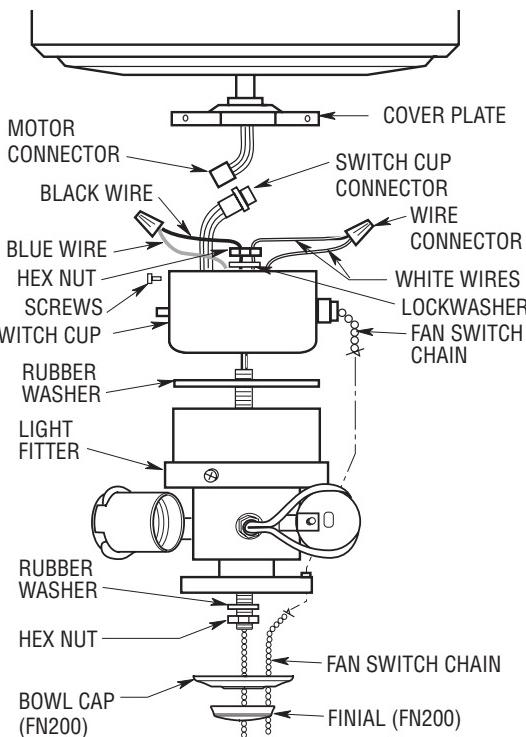
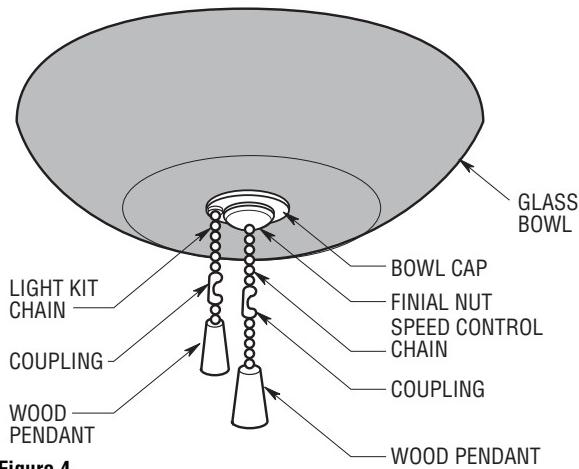

Figure 2
Figure 4
6. Insert the black and white wires from the light fitter through the center hole in the switch cup (Figure 2) and thread the switch cup onto the light fitter. Hold wires taut while installing switch cup to prevent the wires from twisting. Tighten the fitter until the fan switch chain aligns with the hole in the fitter.
7. Insert the black and white wires through the lock washer and hex nut (supplied), firmly tighten the hex nut to secure the light kit fitter to the switch cup. Connect the white wire from the switch cup to the white wire of the light fitter (Figure 2). Connect the blue wire from the switch cup to the black wire of the light fitter. Use listed wire connectors (previously removed in Step 5) to make connections (Figures 2 and 3).
8. Carefully tuck all wires and splices into the switch cup. (Figure 2.)
13. Gently place the glass bowl onto the light fixture (Figure 4). Secure the glass by installing the rubber washer and thin hex nut finger tight. Then place the bowl cap onto the threaded light fixture, route the fan speed control chain through the outer hole and the fitter chain through the center hole. Install and tighten the finial nut onto the threaded light fixture (Figures 2 or 5).